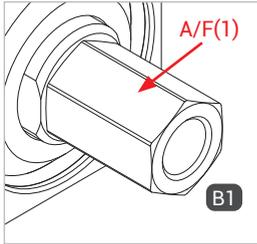

Figure 1
- ▶ When mounting the media inlet 'B1', hold an open-ended wrench against the wrench size A/F(1) (Figure 1).
- ▶ Screw the 'B1' media inlet pressure-tight to the port for the media line (Figure 1). For the tightening torque, please refer to the table below.